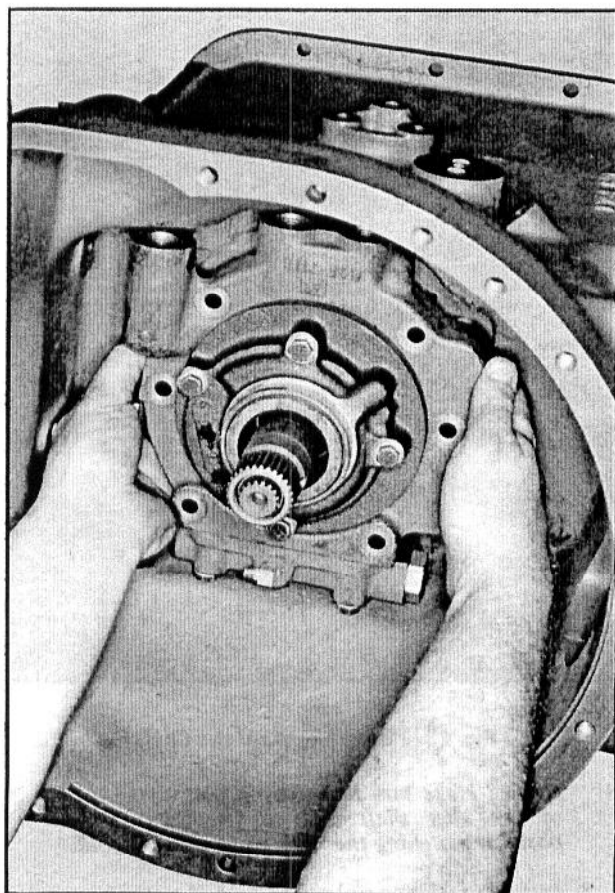

Fig. 20 — Removing/Installing Oil Distributor Manifold
5. Remove the capscrews (with the dyna-seal washers) attaching the oil manifold to the transmission. Lift out the manifold, as shown in Fig. 20.